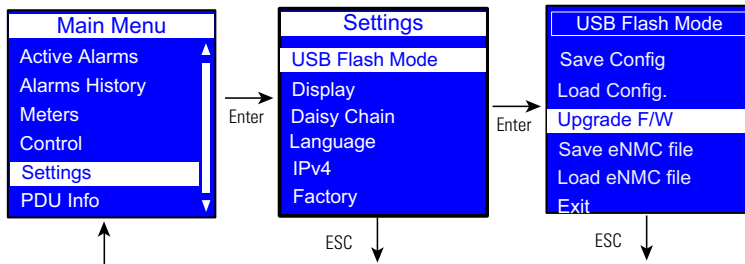

Figure 59. Example Select Upgrade Firmware
8. Select Upgrade FW and click **OK** to confirm the upgrade (see Figure 59). The eNMC module gets the file from the USB drive.